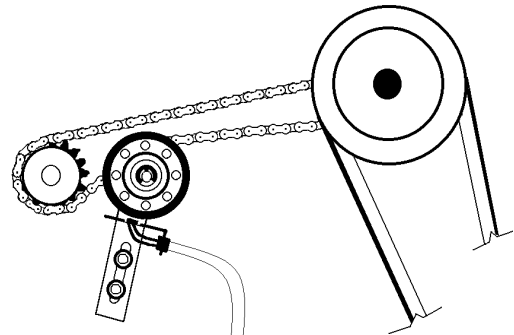

Figure 2A
3. Remove Chain Tensioner on Forwarding Roller Drive from Press [Figure 2A].